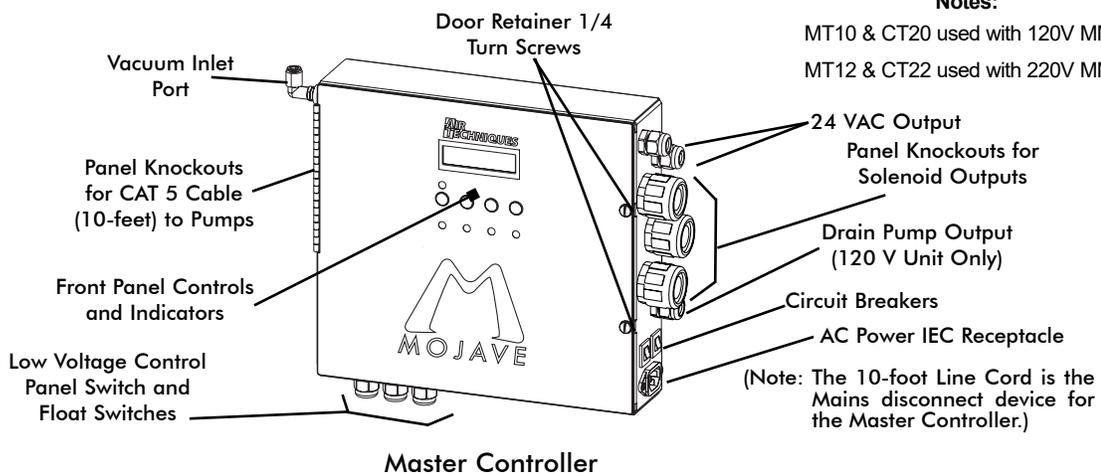

Figure 1. Main System Components
As shown by Figure 1, the **MOJAVE** Dry Vacuum System consists of the major components listed below.
- As shown by Figure 1, the Master Controller is delivered mounted on the front chassis of the fully assembled MT10 or CT20 tank associated with the system. In addition to the water connection at the washout solenoid, electrical and vacuum connections must also be made.